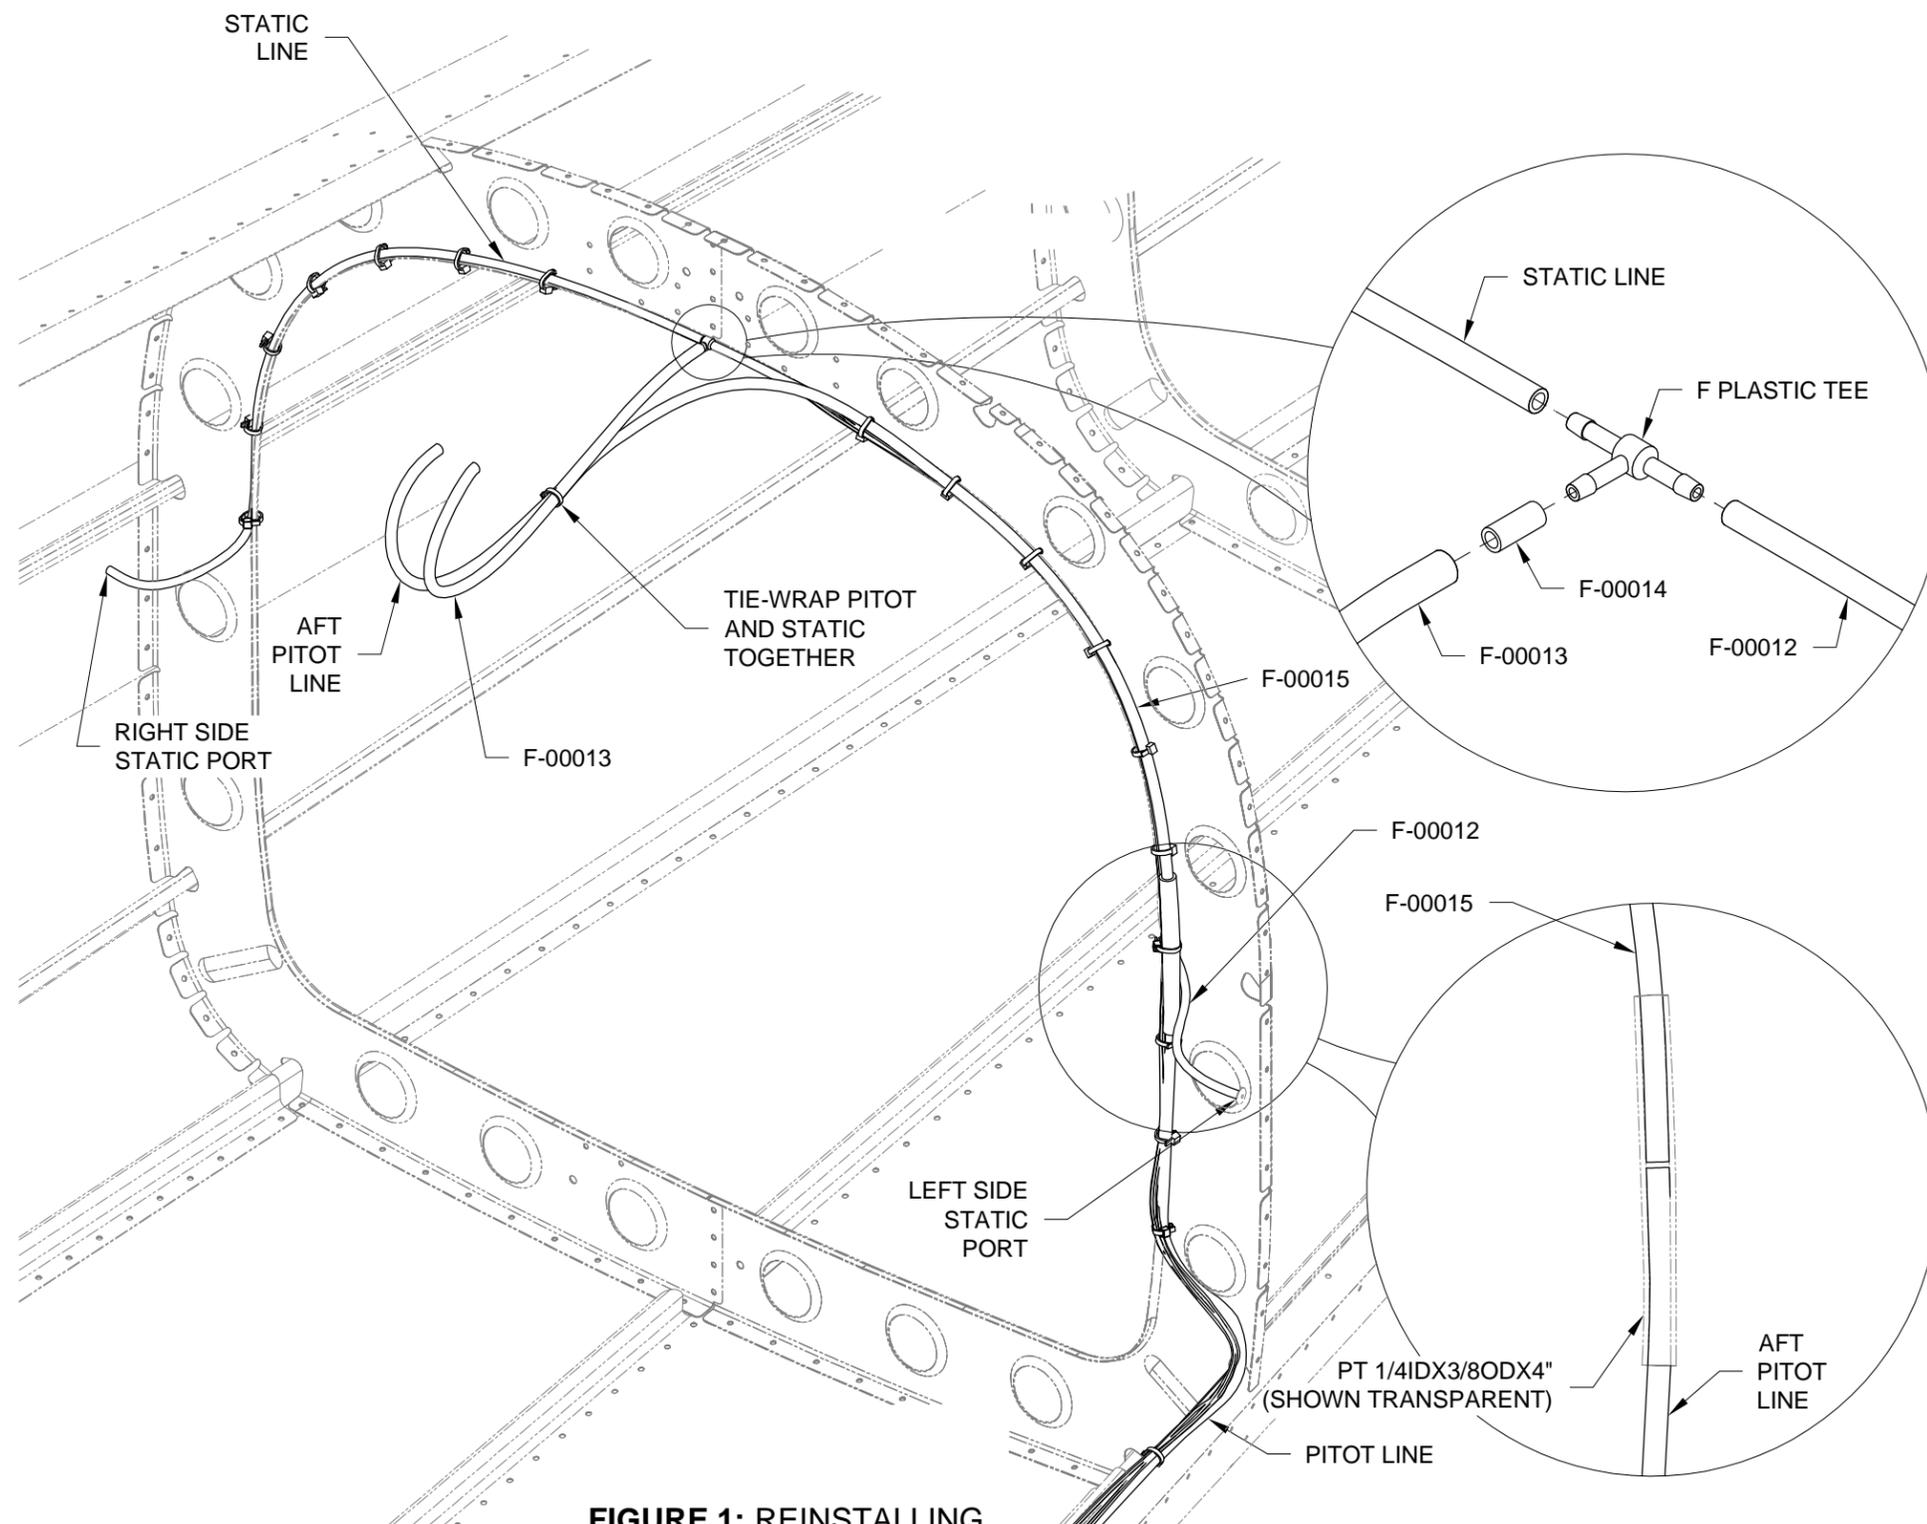

FIGURE 1: REINSTALLING THE STATIC TEE
Step 6: Heat a PT 1/4IDX3/8ODX4" Pitot Tube Joiner. Use the pitot tube joiner to join the F-00015 Pitot Line Extension and Aft Pitot Tube together. See the detail view in Figure 1.